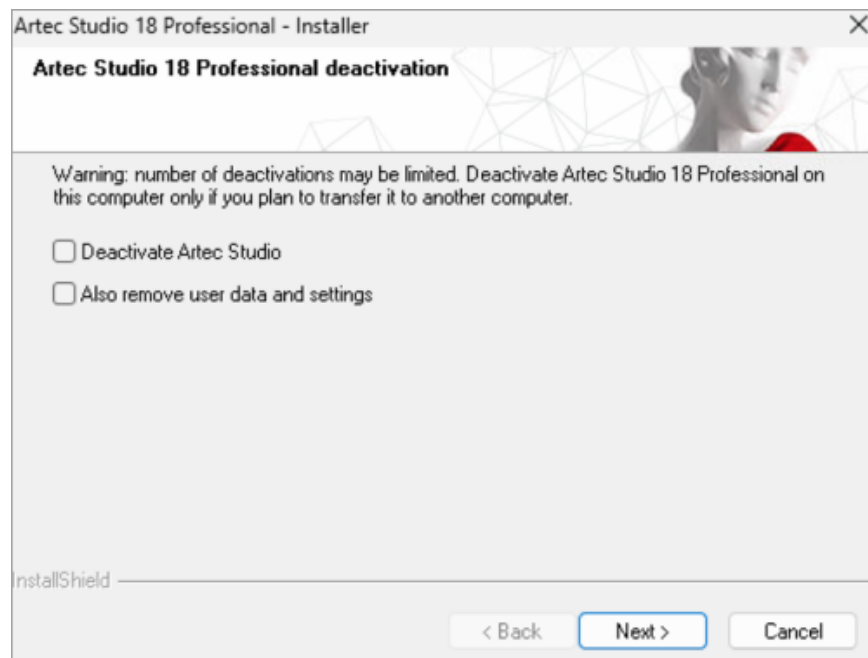

Figure 34: Deactivation of Artec Studio.
3. The dialog shown in Figure 34 will appear. Select the *I understand. Deactivate Artec Studio* checkbox.